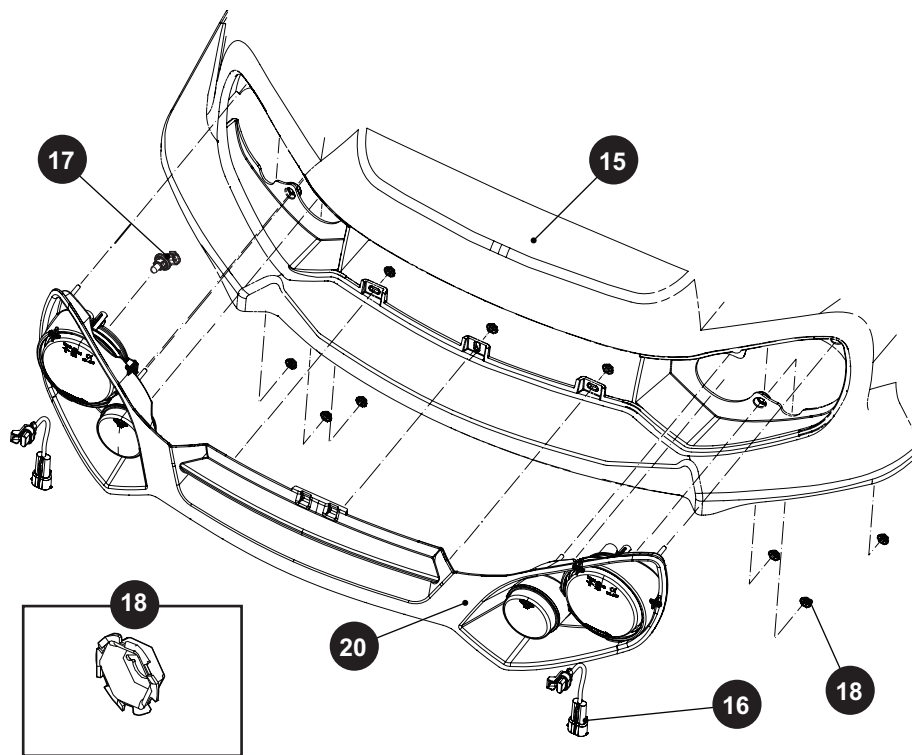

Fig. 7 Headlight Grille Assembly
1. Disconnect the wire harness (16) from the headlight bulb (17).
2. Remove the eleven nuts (18) from the rear of the headlight grille assembly (20), that secure the headlight grille assembly to the cowl (15).
3. Remove the headlight grille assembly (20) from the outside of the cowl (15). It may be necessary to pry the headlight grille assembly gently away from the cowl (Ref. Fig. 7).